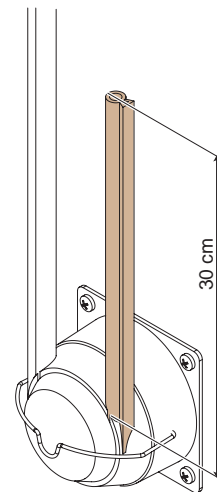

Figure 3-3
3. Adjust the pump hose to the right length, ± 30 cm (*see figure 3-3*).